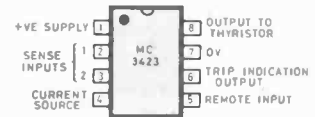
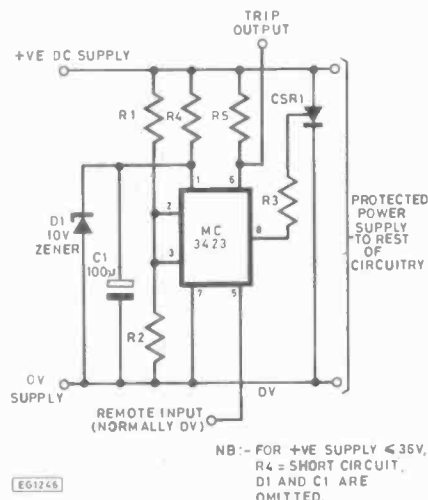

Fig. 1. Overvoltage protector integrated circuit pin-out with its specification below
Fig. 2. Basic overvoltage protection circuit
3. Fit IC1 ensuring that the correct lead is removed (see Fig. 1). Fit close to the board ensuring correct polarity and solder.
The pinout and specifications of the device are shown in Fig. 1, and the basic protection circuit is shown in Fig. 2. Note that D1, C1, and R4 are only needed if the positive supply is greater than 36V; they ensure that the positive supply to the i.c. is kept well below its maximum, while still allowing voltages of up to 45V to be used for the main supply. Normally, D1, C1 and R4 are omitted, and pin 1 connects directly to the positive supply. If these components are being used, R4 should be arranged to allow 25mA to flow through it:
Pin 6 provides a trip indication output. This is an open collector output from a transistor, so it needs a load resistor (R5 in Fig. 2) taken up to a positive supply rail to give an output voltage swing. The transistor turns on inside the i.c. (i.e. pin 6 is switched to 0V) when the i.c. detects an overvoltage condition, and turns off again when the thyristor shorts out the supply rail. Hence, under most circumstances, this output is only a pulse of approximately 1µs which will need suitable extra circuitry to indicate the condition or act on it. (Note that it is pointless feeding it into circuitry which is powered from the same protected supply rail). Pin 5 is a remote input which can be used to activate the i.c. and shut down the power supply. Normally this should be held at 0V, but if raised to above 2V or thereabouts it causes the i.c. to trip, even if there is no actual overvoltage condition present.